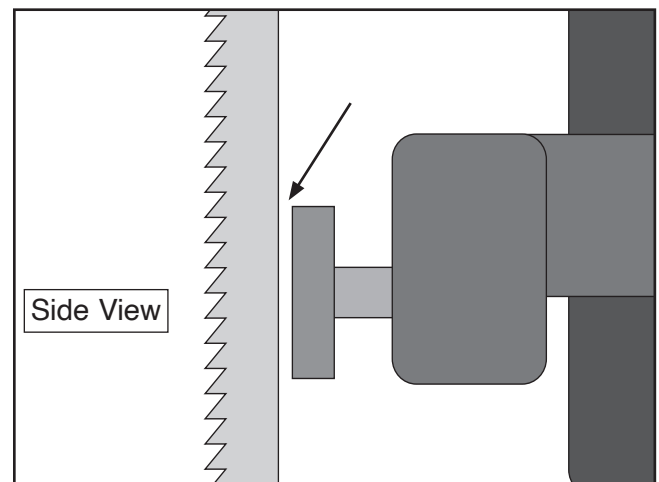

Figure 35. Blade should be aligned approximately 0.016" away from the bearing edge.
8. Using the feeler gauge, slide the support bearing approximately 0.016" away from the back of the blade, as illustrated in **Figure 35**.